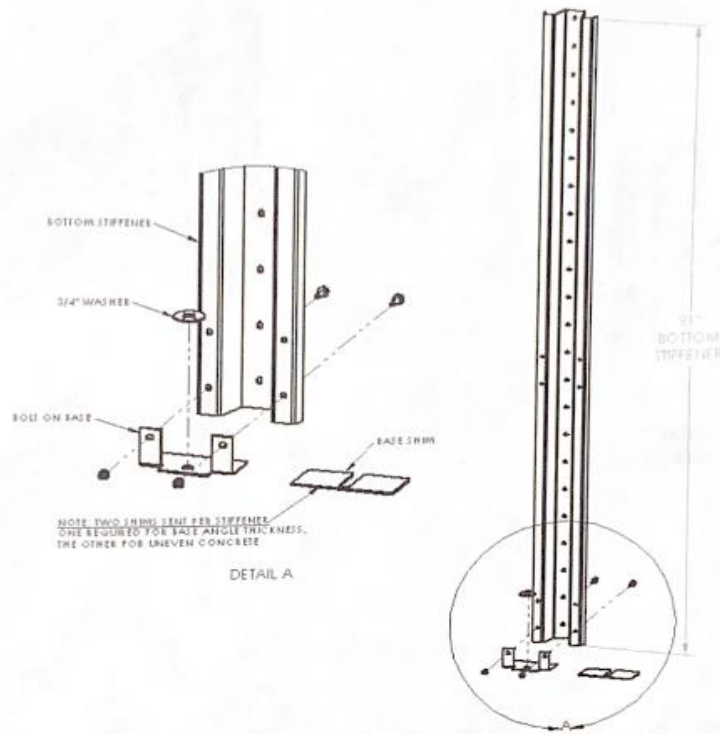

Figure 17 – Stiffener Base Details
Attach bottom stiffener to sidewall using appropriate sized bin bolts. Assemble bottom base to bottom stiffener with bin bolt and flange nut. Each stiffener will include two (2) shims. One shim is required for thickness of bolt-on base angle. An extra shim is supplied for allowances of uneven concrete surface. See Figure 17 - Stiffener Base Details. Attach final stiffener splice and tighten bolts.